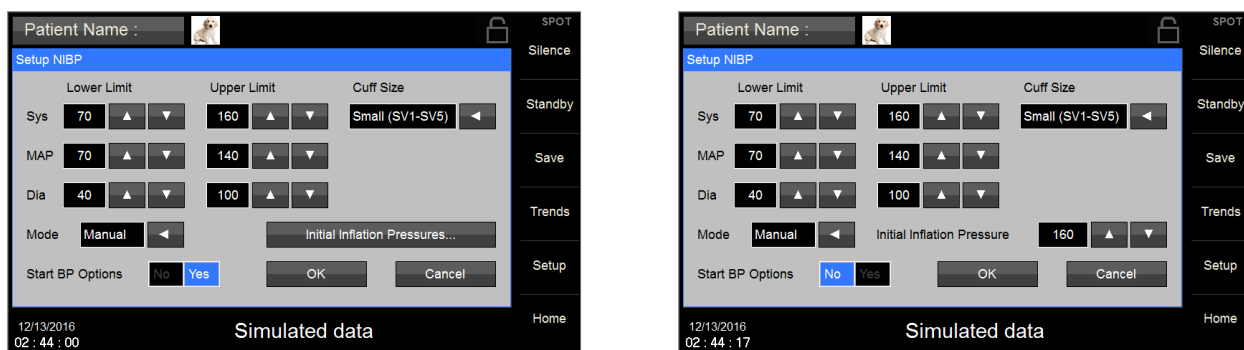

Figure 30: NIBP Setup Screen Options
- Start BP Options (No, Yes) determines the Initial Inflation Pressure(s) to start a blood pressure measurement (refer to Figure 30);